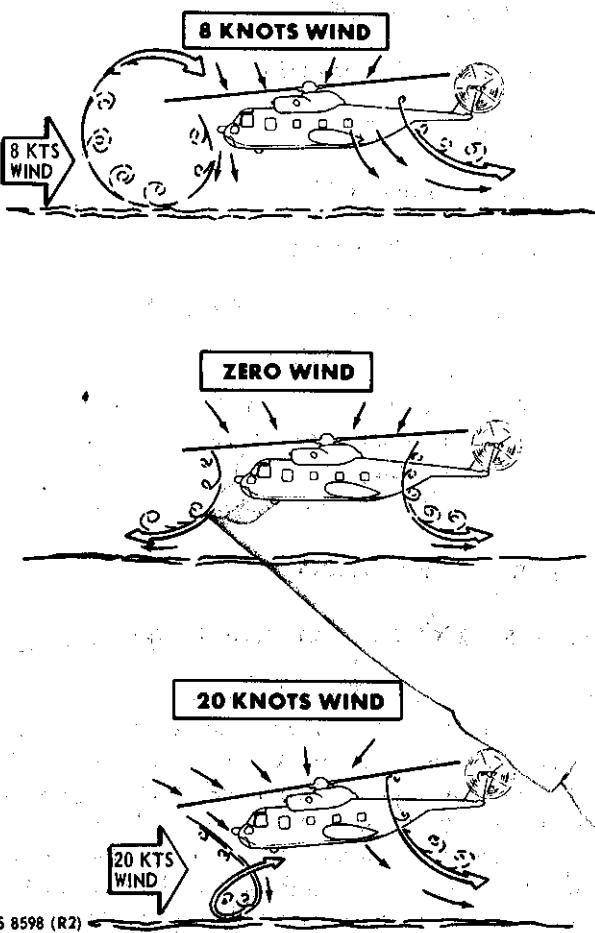

Figure 2-11. Low Hover Spray Patterns
Operational experience has shown that salt spray ingestion in the engine may result in a loss in performance as well as a loss in compressor stall margin. This reduction in stall margin makes the engine susceptible to stall during accelerations, and more particularly, under deceleration conditions. As the spray is ingested and strikes the compressor blades and stator vanes, salt is deposited. The resulting buildup gradually changes the airfoil sections which in turn reduces compressor efficiency. This deterioration will be noticed as a decrease in torque (Q) and an increase in T_5 for a given Ng . Should the deterioration reach the point where the compressor actually stalls, T_5 will increase while Ng and torque decrease. The circumstances under which power deterioration may occur during salt water operation vary with a number of factors. The flight regime, gross weight, wind direction and velocity, pilot technique, duration of maneuver, salinity of the water, and the relative density of the salt spray all have a bearing on performance deterioration (figure 2-11). Intermittent operation in moderate salt spray conditions (such as a series of landings and takeoffs) could expose the engines to enough salt spray to cause noticeable performance deterioration. During prolonged operations (such as low hovering or taxiing) in heavier spray conditions, power deterioration will be readily apparent. Maneuvers such as hovering close to the water in light winds (about 8 knots), taxiing with high power, or low flights at low speeds, will generate maximum rotor downwash spray conditions. The amount of spray observed on the windshield is the best indication of spray ingestion into the engine. The FOD shield provides engine protection because the air